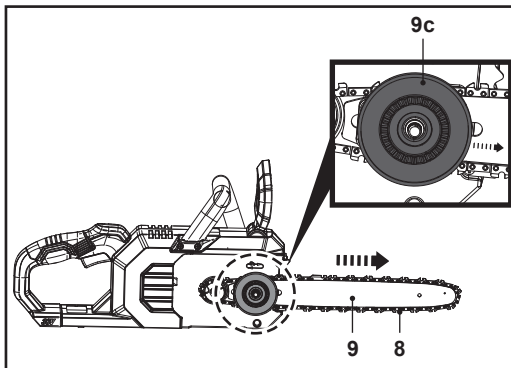

Fig. 5
7. Rotate the turning wheel (9c) clockwise to adjust the guide bar (9) towards the right to tighten the saw chain (8), then align and place the chain saw cover (12) over the mounting bolt (6) (Fig. 5, steps 1, 2).
**WARNING!** THE DIRECTION OF THE SAW CHAIN 'CUTTERS' MUST BE AS INDICATED BY THE SYMBOL AND ARROW ON THE CHAIN SAW COVER (12)! ENSURE THE GUIDE BAR (9) AND SAW CHAIN (8) ARE PROPERLY ASSEMBLED IN CORRECT DIRECTION; OTHERWISE THE SAW CHAIN CANNOT WORK.